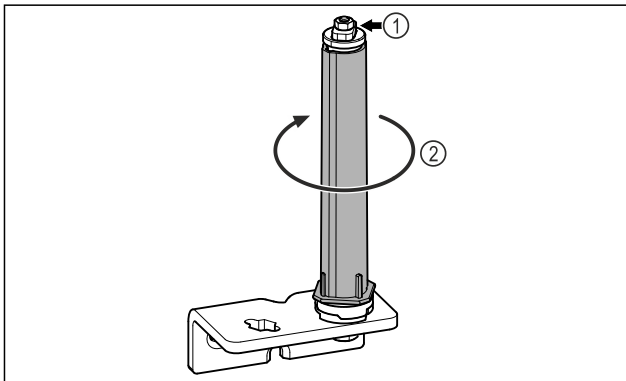

Fig. 14
- Do not dismantle the door locking system Fig. 14 (1).
- Turn the locking system Fig. 14 (2) until it clicks.